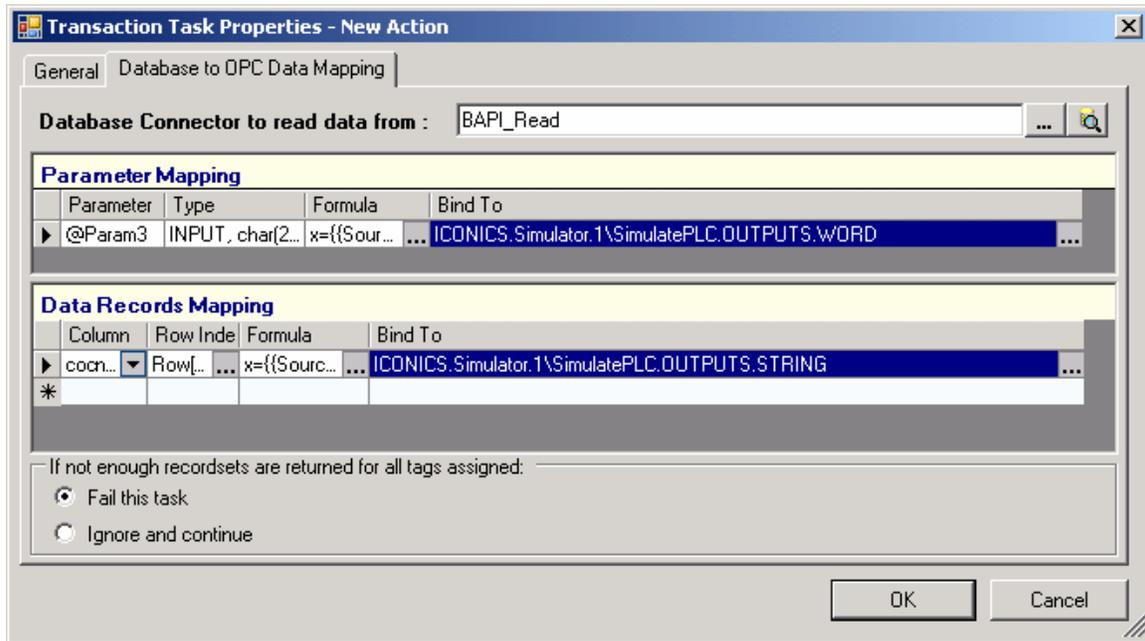

Figure 17: Database to OPC Writing
20. The configuration will look like Figure 17 (below). Click on “OK” and “OK” again.